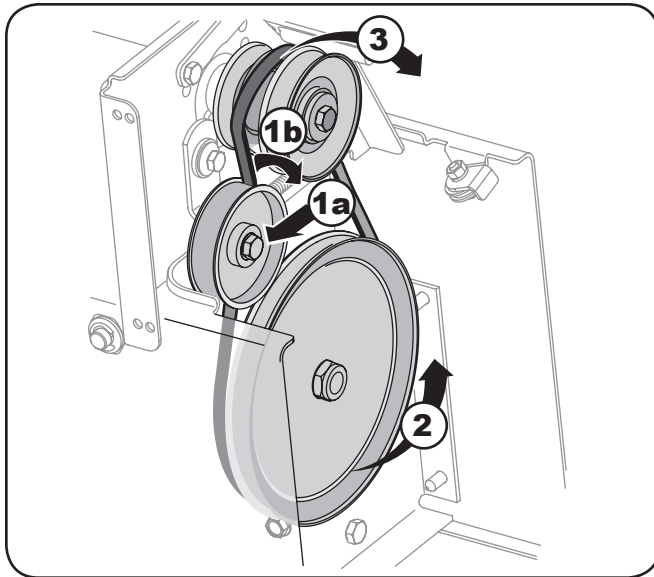

Figure 8-8
1. Pull the idler pulley away from the backside of the drive belt to relieve the tension and slip the drive belt off the idler pulley. Carefully release the idler pulley. See Fig. 8-8.